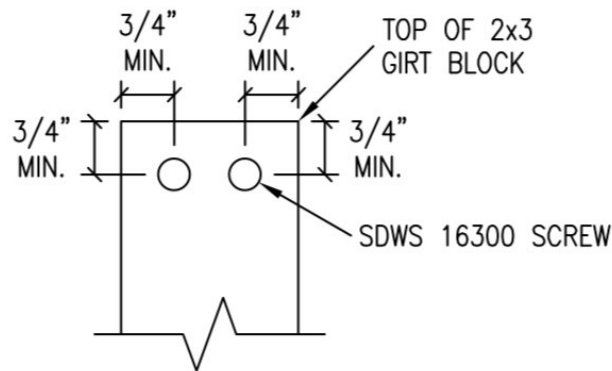

Figure 19-3: Screwing Pattern To Girt Block Top
Screw bookshelf girt ends securely into bookshelf girt block tops with one (1) SDWS16300 minimum (more if specified on plans) at each end. Repeat for each bay around building. A maximum of two (2) SDWS16300 can be placed through any given bookshelf girt end into a 2x3 girt block below. **See Figure 19-3**